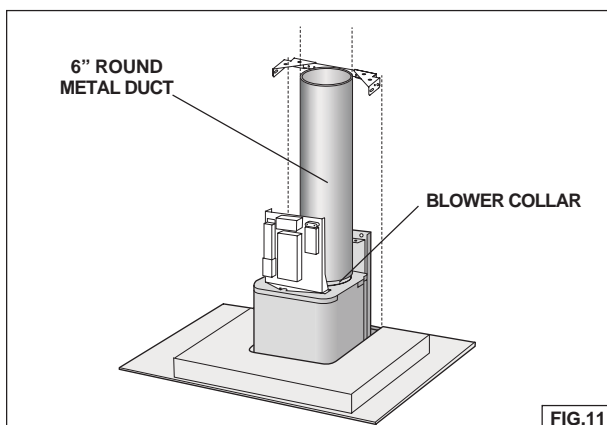

FIG.11
5. On **ducted hoods**, attach 6" round metal duct between the hood's blower collar and duct that leads to the outside location (Fig. 11).